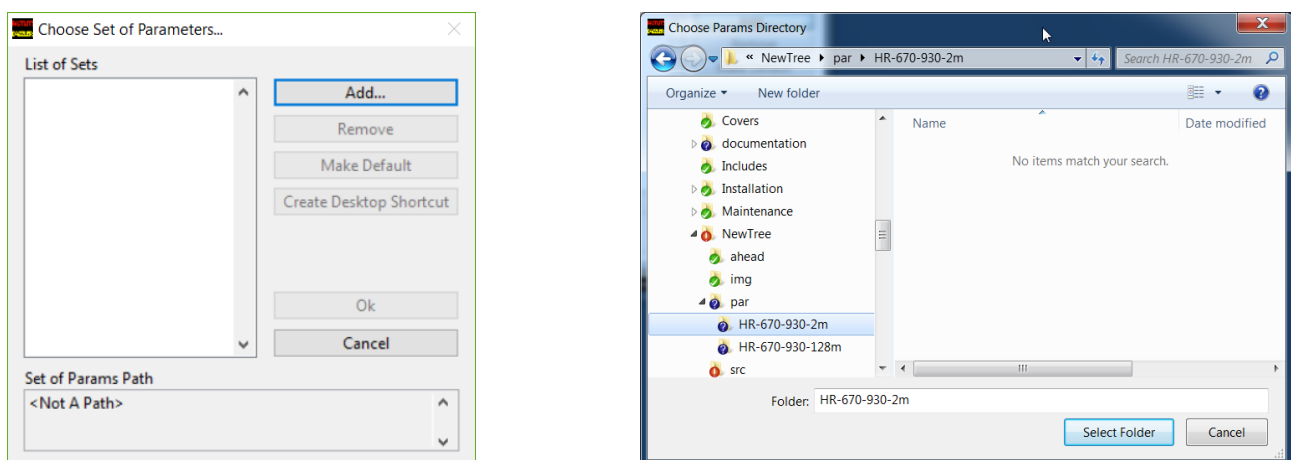

Figure 5.13: Selection of Parameters Directory
3. restart the software. The window shown in Figure 5.13 should appear.